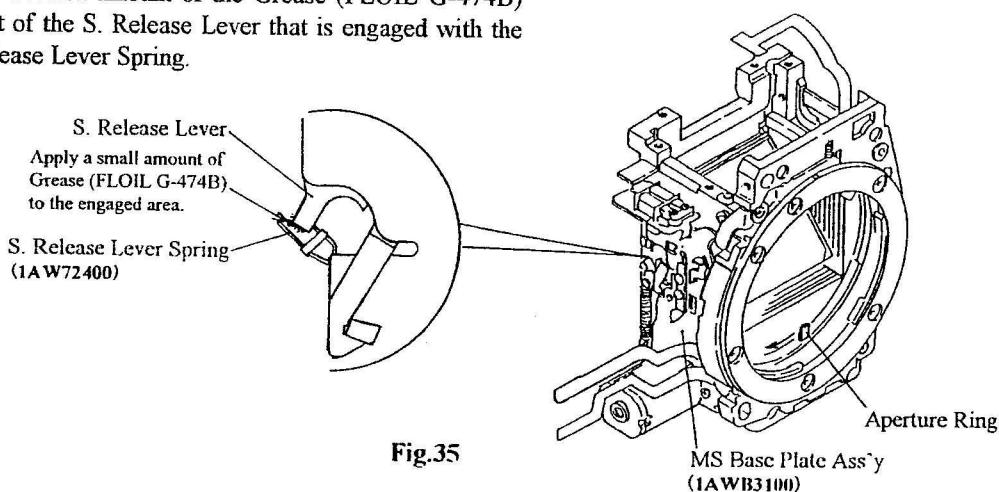

Fig.35
- a) Turn the Aperture Ring in the aperture stop-down direction (in the direction of the arrow) and with it kept in this position, install the MS Base Plate Ass'y (1AWB3100) in the Mirror Box. In doing so, the S. Release Lever Spring (1AW72400) must be in the position as shown in Fig. 35.